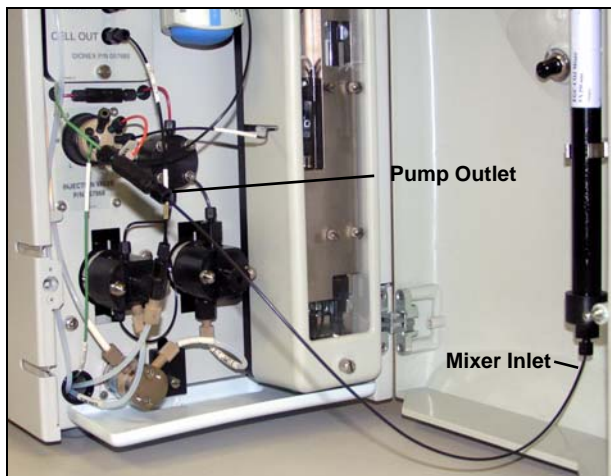

Figure 71. Pump Outlet Connected to Mixer Inlet for Mixer Hydration
3. Connect the pump outlet to the mixer inlet (see Figure 71).